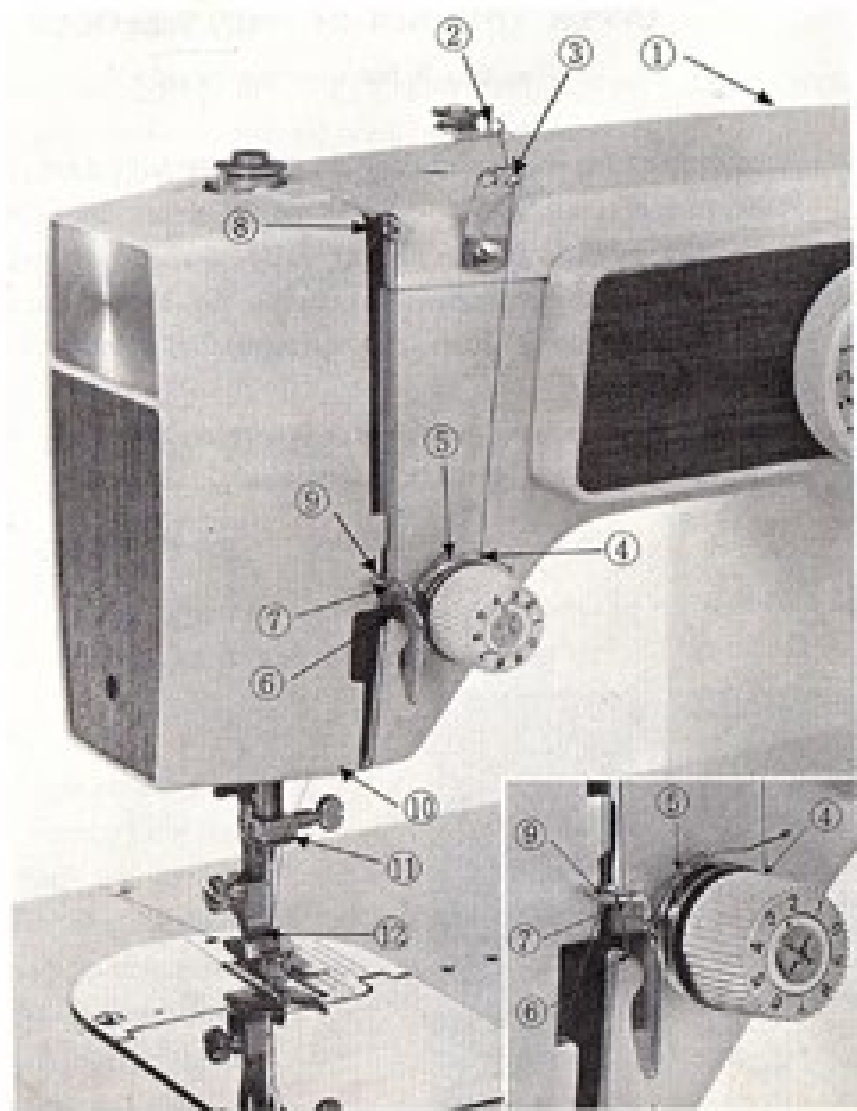

Fig. 12
6. under thread guide bar and into guide (⑥, Fig.12)
Follow threading instructions for single needle with these exceptions. Place thread, matching or contrasting in color, on both spool pins. Draw threads through arm thread guides then down and around tension discs with one thread passing between the back discs and the other between the front discs. Then into corresponding notches of check spring. Fig. 12.